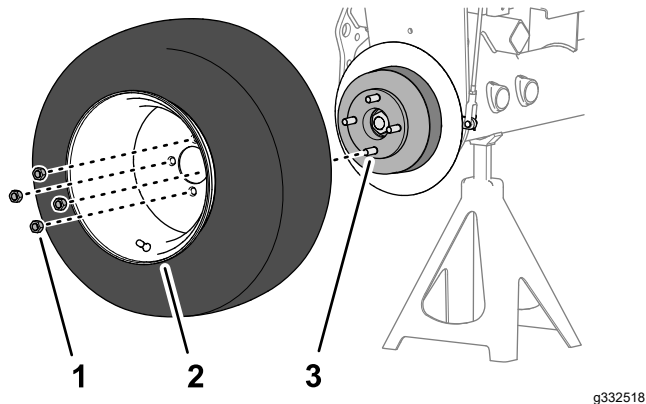

Figure 72
1. Assemble the wheel to the hub with the 4 lug nuts (Figure 72), and tighten the lug nuts by hand.